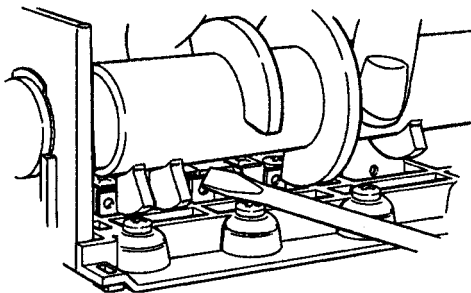

Figure 11
4. Relieve system pressure by opening the backwash drain valve (the sixth valve back from the control) with a screwdriver, Figure 11.
drain valve (the sixth valve back from the control) with a screwdriver, Figure 11.
- Relieve system pressure by opening the backwash drain valve (the sixth valve back from the control) with a screwdriver, Figure 11.